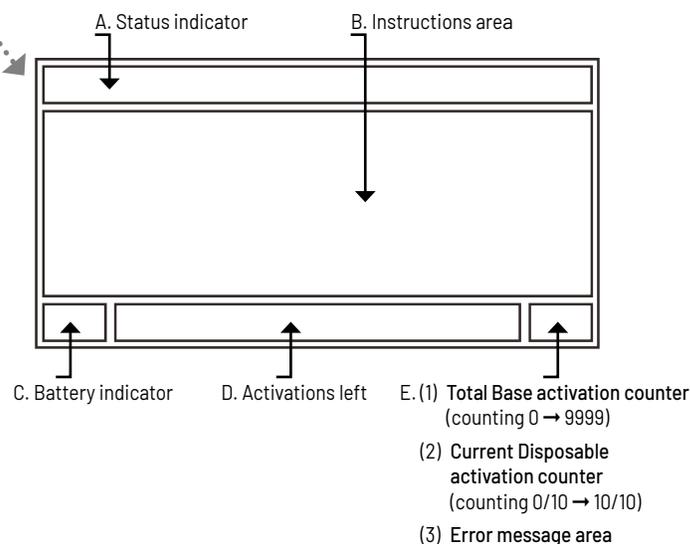

Fig. 2 (Base Display Screen)
- PLASMASHield® Base (A)
- Charger Input Port (1)
- Display Screen (2) – see Fig. 2 for details
- Disposable Inlet (3)
- Charger (B)
- AC Plug (4)
- Charger (5)
Always check the Base battery level before use. This appears on the Base Display Screen (see Fig. 2, C).